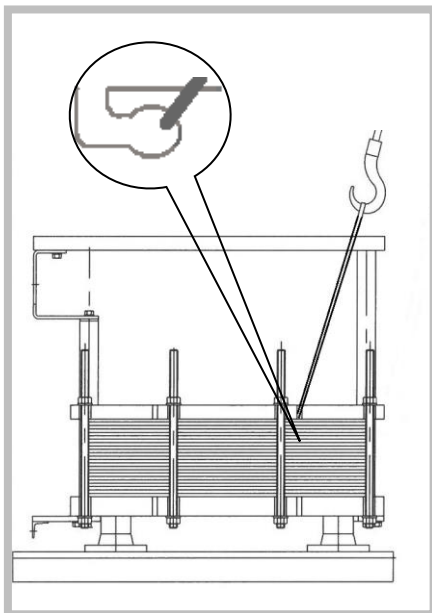

Figure 25
2. Attach suitable lifting means to the designated suspension eyes of the frame plates (Figure 25). Chain suspensions may not be used. The PHE can be damaged and slip off.